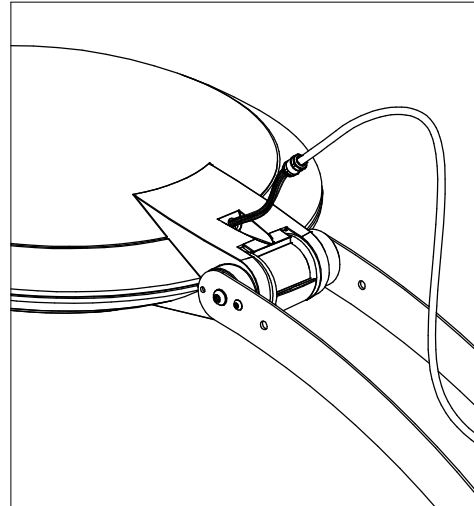

FIG. 5-2
2. USE PROVIDED CONDUIT ASSY-5GA STEEL BRAIDED CABLE. FEED STRANDED BUNDLE OF WIRES INTO FIXTURE HOUSING OPENING. USE THE 10in LONG STRIPPED CORD SIDE. (FIG. 5-2)